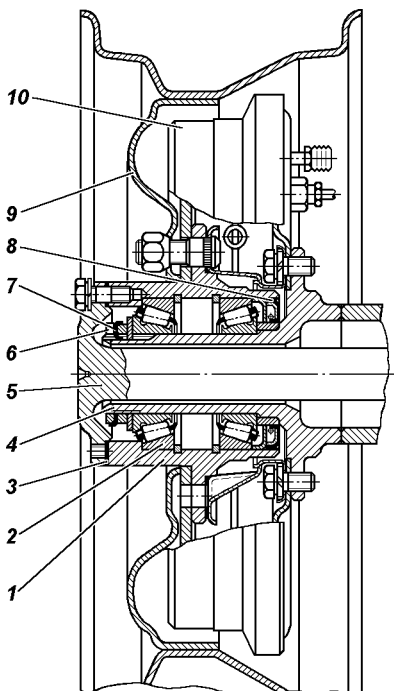

Fig. 54. Rear wheel hub:
2. Take out the rear axle axle shaft 5 (Fig. 54) or remove the hub driving flange and the front axle wheel disengaging coupling.